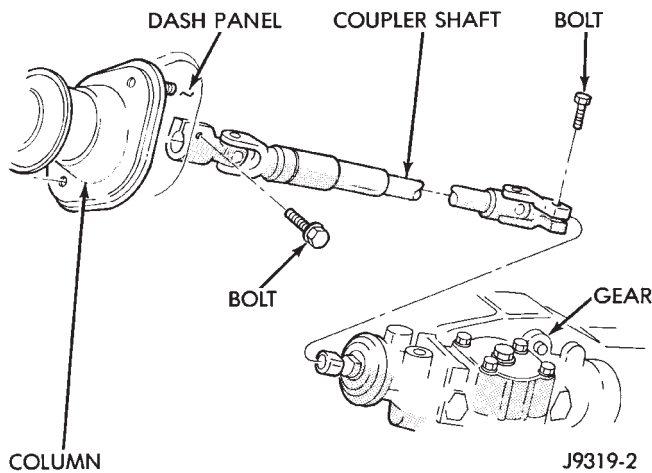

Fig. 5 Column Coupler Shaft
- (1) Make sure the front wheels are in the **straight ahead** position.
- (2) Observe Cautions and disconnect the negative (ground) cable from the battery.
- (3) Remove steering wheel from column, refer to Steering Wheel-Removal and observe Cautions/Warnings.
- (4) Remove column coupler upper pinch bolt (Fig. 5).